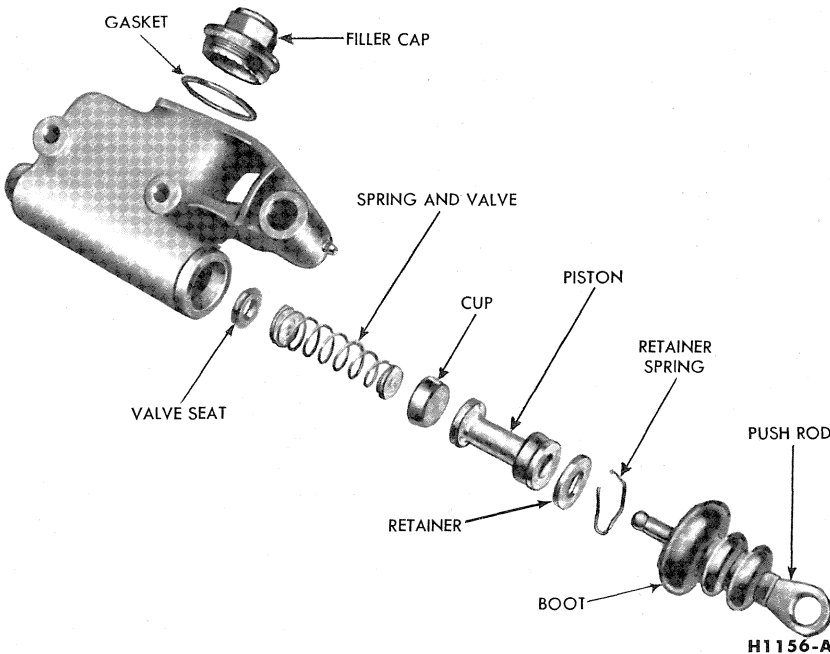

FIG. 13—Brake Master Cylinder—Disassembled
(Fig. 13), and pour out any remaining fluid.
3. Insert the valve seat, spring and valve assembly, and cup into the cylinder bore (Fig. 13).